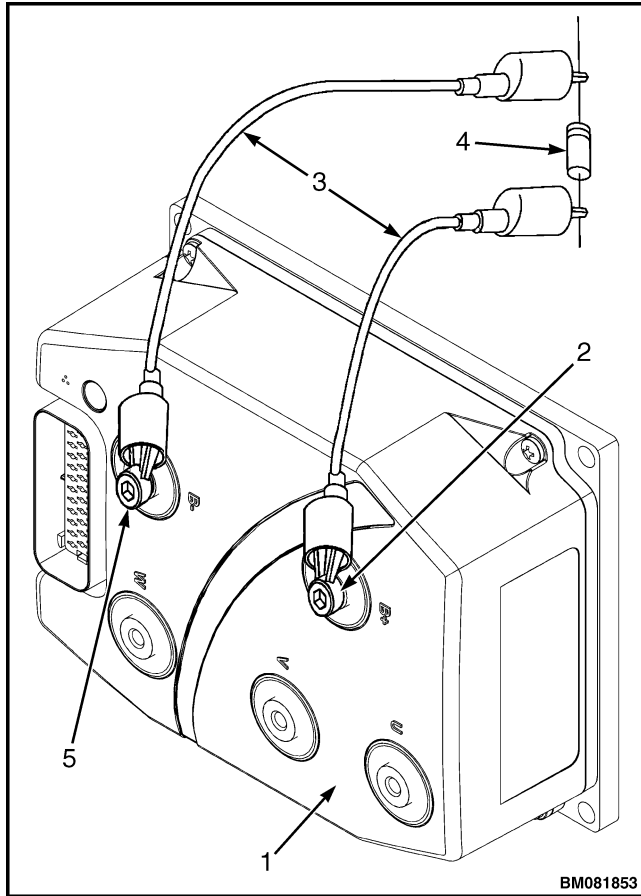

Figure 1. Discharging the Capacitors
3. Discharge the capacitors in the controller by connecting a 100-ohm, 25-watt resistor across the controller's B+ and B- terminals using two insulated jumper wires. See Figure 1.
Legend for Figure 1